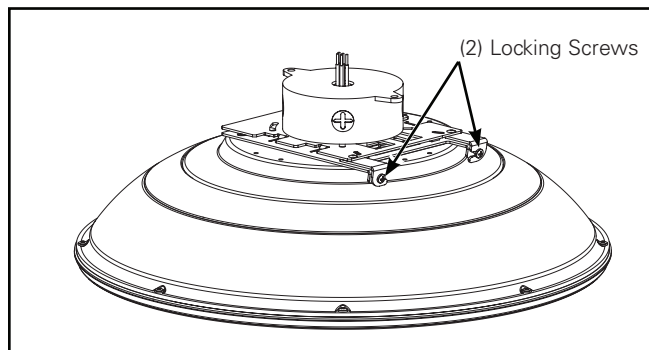

Figure 6.
- Pivot both locking hinges back into place and tighten locking screws to 10 inch-pounds (Figure 6).